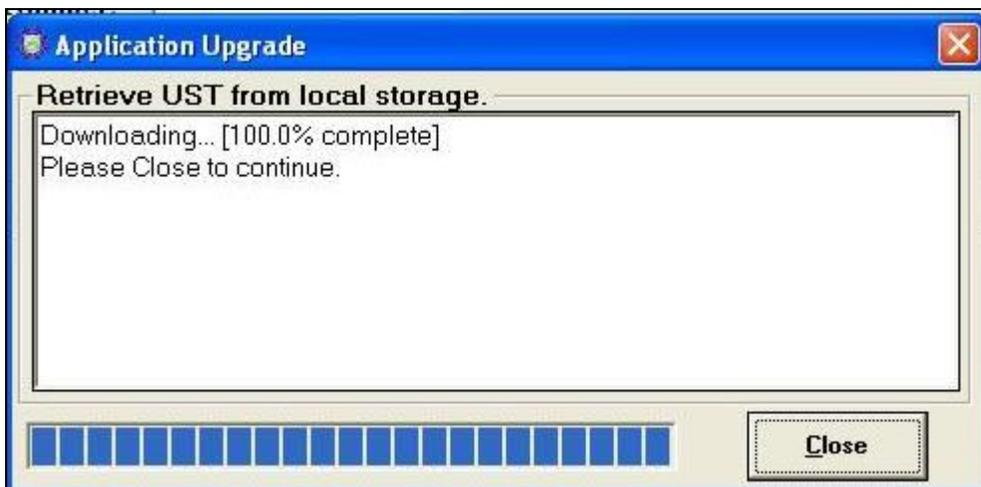

Figure 2.4.6
4. When complete, the following window is displayed (Figure 2.4.6). Click ‘Close’ (Figure 2.4.6). The POS closes.